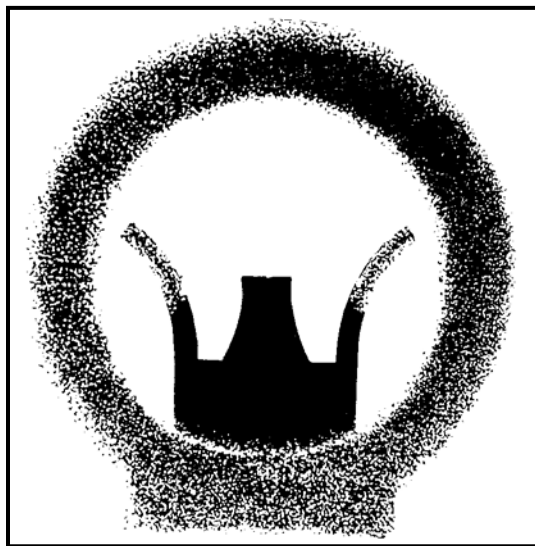

Figure 4-17. Correct sight alignment.
(1) **Rifle Sight Alignment.** Alignment of the rifle with the target is critical. It involves placing the tip of the front sight post in the center of the rear sight aperture (Figure 4-17). Any alignment error between the front and rear sights repeats itself for every 1/2 meter the bullet travels. For example, at the 25-meter line, any error in rifle alignment is multiplied 50 times. If the bullet is misaligned by 1/10 inch, it causes a target at 300 meters to be missed by 5 feet.